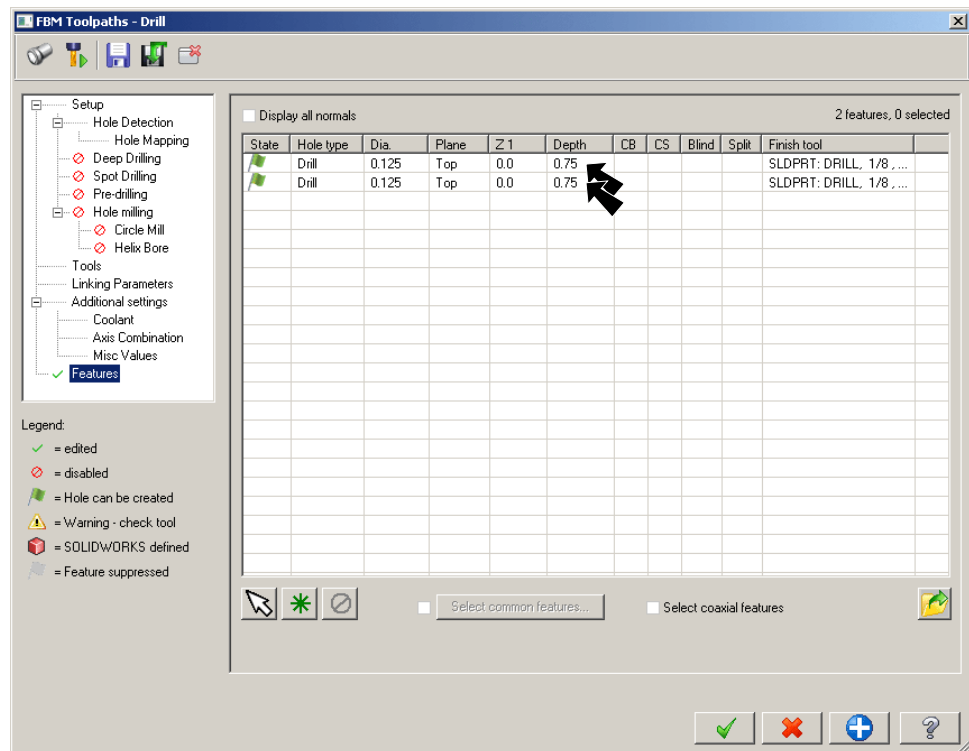

Fig. 69
Step 6. Confirm **2 holes** and **depth .75** are listed and click **OK** , **Fig. 69**.